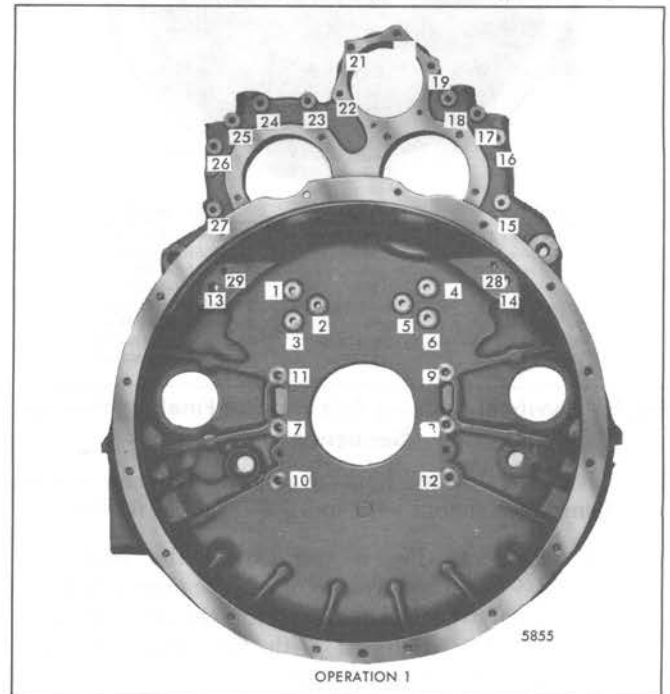

Fig. 8 - Flywheel Housing Bolt and Nut Tightening Sequence
9. Refer to Fig. 8 (Operation "1") for the bolt and nut tightening sequence and, starting at number 4 on a right-hand rotation engine or at number 1 on a left-hand rotation engine, draw the flywheel housing bolts and nuts up snug. When tightening the idler gear hub bolts, turn the engine crankshaft to prevent any bind occurring in the idler gear bearing assembly.